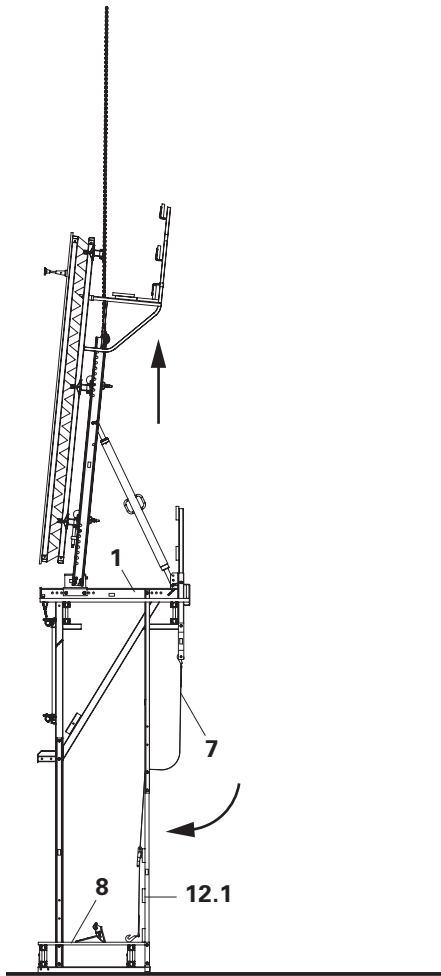

Fig. B1.27
8. Safety rails: attach guardrails (12.1) to the edge platforms by means of coach screws M8 x 70, see C1 Guardrails. (Fig. B1.27)